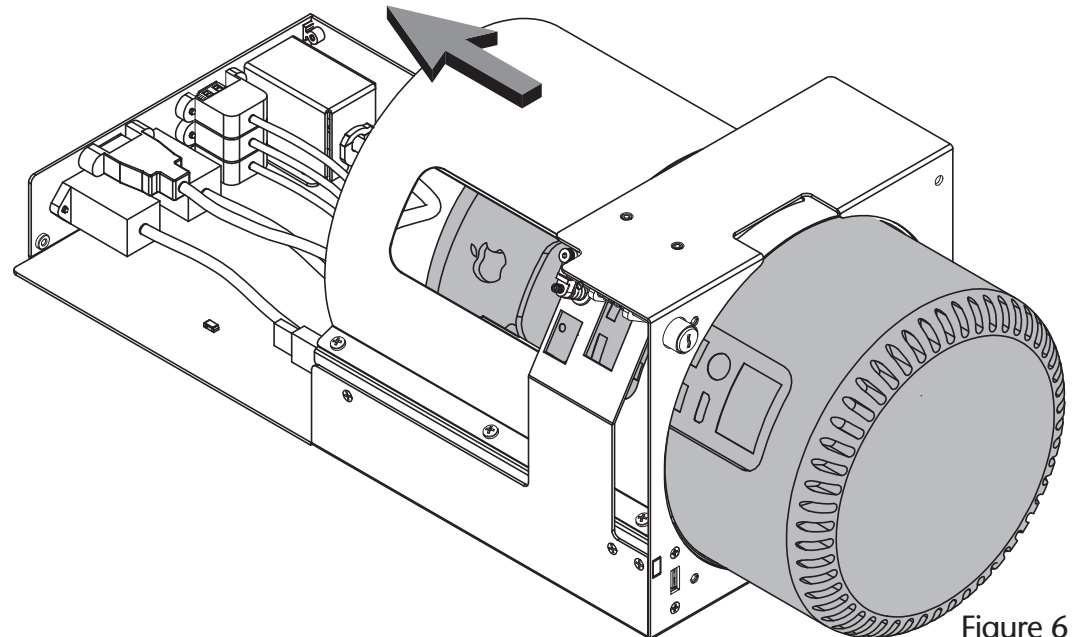

Figure 6
4. Holding the computer with its ports facing up, *very carefully* insert the computer top-first into the computer mounting module as shown, lining up the Mac Pro's ports with the openings in the module's top bracket. (Figure 6).